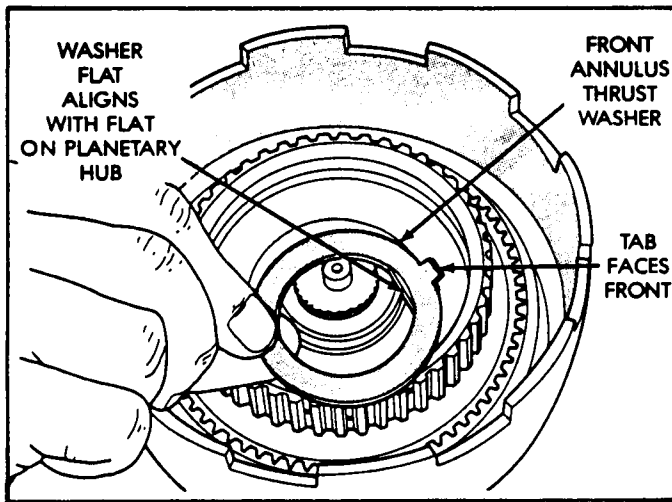

Figure 85
20. Install front ring gear thrust washer ensuring the flat on washer is aligned with flat on planetary hub, and the tab on washer is facing forward, as shown in Figure 85.